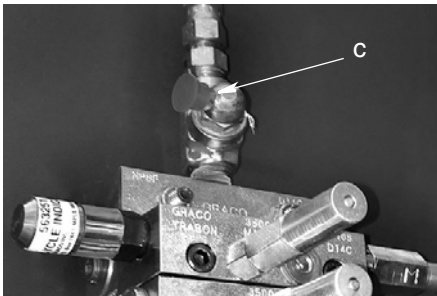

FIG. 127
2. Connect a pneumatically powered grease gun to the grease zerk (c) on the master valve to the pump (FIG. 127). Have a colleague stand next to the pump to identify when the main feed line from the pump is full and the air is purged from the line. Wrench tighten the fitting on the G3 pump, securely.
3. Continue to fill the master valve and the grease lines to the secondary valves (FIG. 127). Have a colleague identify when the lines are filled and air is purged from the lines. Wrench tighten the inlet hose fittings on the secondary valves, securely.